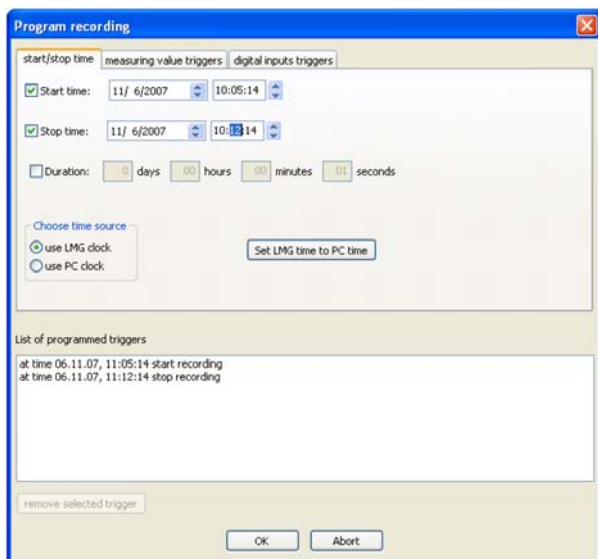

Figure 11: Time as event
- Time: You define a start time and a stop time for the recording using either PC or LM as time source (cf. figure 11).